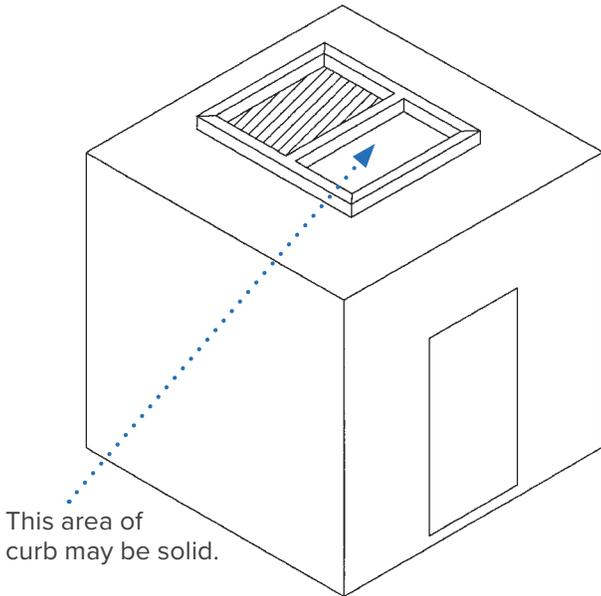

Figure 1. Curb placed on roof of walk-in cooler.
- 2. Apply silicone caulk around the perimeter of roof opening. Place the curb on roof of cooler. It is recommended that the curb be fastened to the roof panels using non-conductive bolts or insulating the bolt heads. Bolt heads should be countersunk or low profile to prevent contact with the PRO³ system. (See Figure 1, page 7) Check the top of the curb with a level. PRO³ units require a surface that is within 1° of level or better and no more than a 5/8" drop per 3 feet (17mm drop per meter).